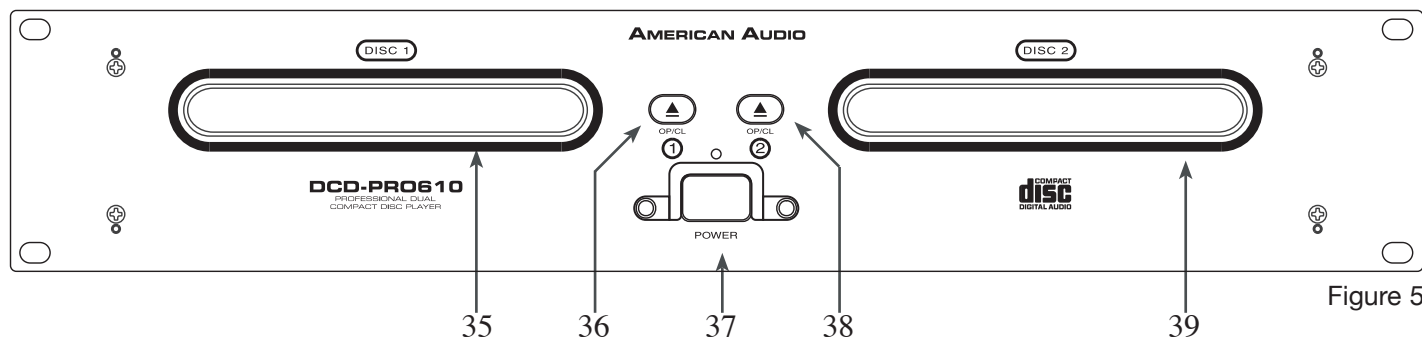

Figure 5
C. TRANSPORT UNIT - FACE (FIGURES 5)
35. DRIVE 1 TRANSPORT TRAY - This tray is used to load and load compact disc in to the drive 1 mechanism. The tray is opened and closed by pressing the DRIVE 1 OPEN/CLOSE BUTTON (36). Never attempt to force the transport tray open or closed when the power is turned off.